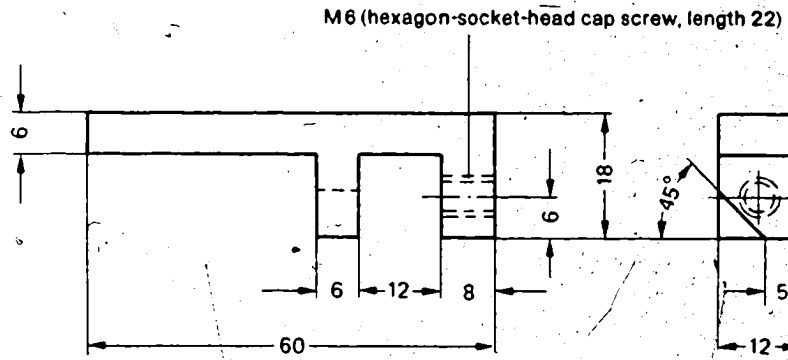

Fig 4 Clamping piece (user-fabricated)
1. Measure the control-rod travel using the control-rod setting device 1688130 095 (EFEP 565), magnet and 30 mm (1/10) dial indicator. Fabricate clamping piece as shown in sketch and fasten to the end of the control rod (Fig. 4). Assemble control-rod setting device and apply magnet to clamping piece.